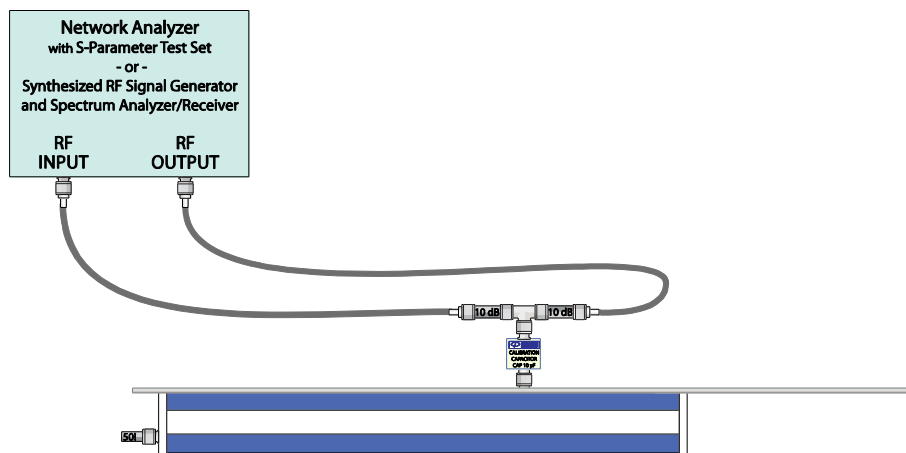

FIGURE 13 - Monopole Calibration Normalization using ECSM Method
As shown in Figure 13, the test setup is normalized by connecting both the 50Ω RF output of a network analyzer or synthesized signal generator, and the RF input of the network analyzer or a spectrum analyzer/EMI receiver, to opposite legs of a coaxial T adapter using (2) 10 dB attenuators. The third leg of the T adapter is connected to the AM-741R input port through a Com-Power AMC-10pF Calibration Capacitor. The capacitor acts as a “dummy antenna”, simulating the high impedance of the rod element. A 50 ohm terminator is connected to the output port of the AM-741R.